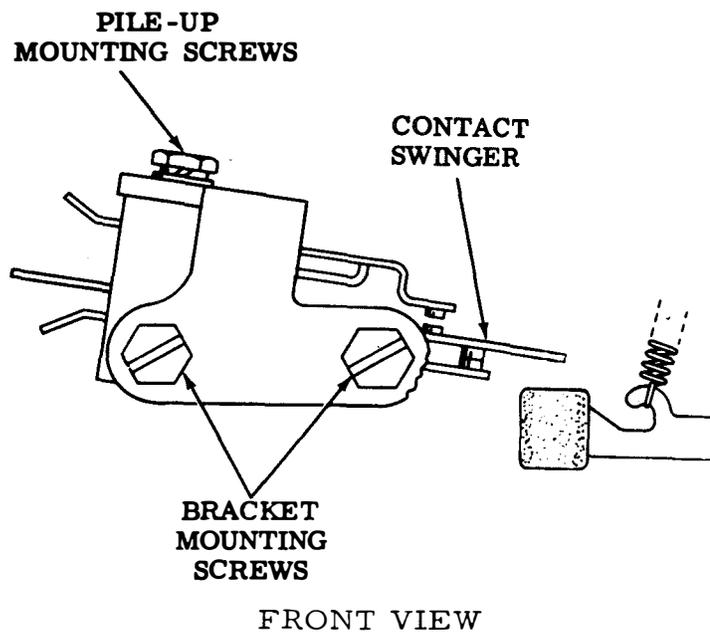
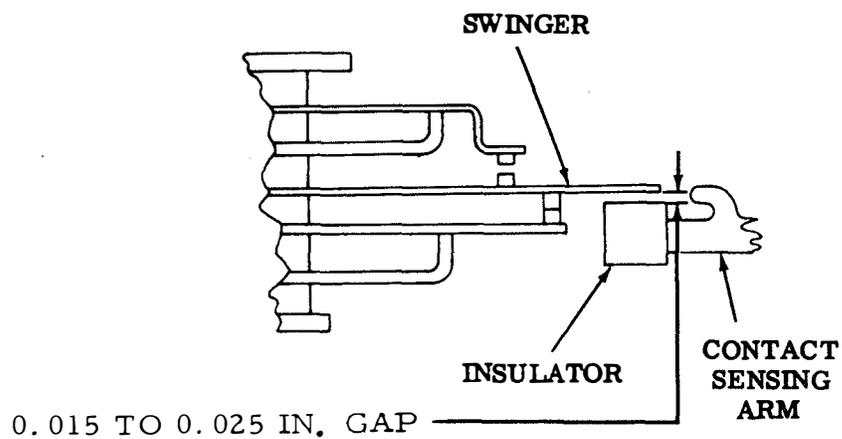

Figure 6-57. Contact Assembly Positioning
Figure 6-58. Contact Swinger - Sensing Arm Clearance
(5) Contact Assembly Positioning. Adjust contact assembly positioning as follows:
- (a) Refer to figure 6-57.
(6) Contact Swinger - Sensing Arm Clearance. Adjust contact swinger - sensing arm clearance as follows:
- (a) Refer to figure 6-58.